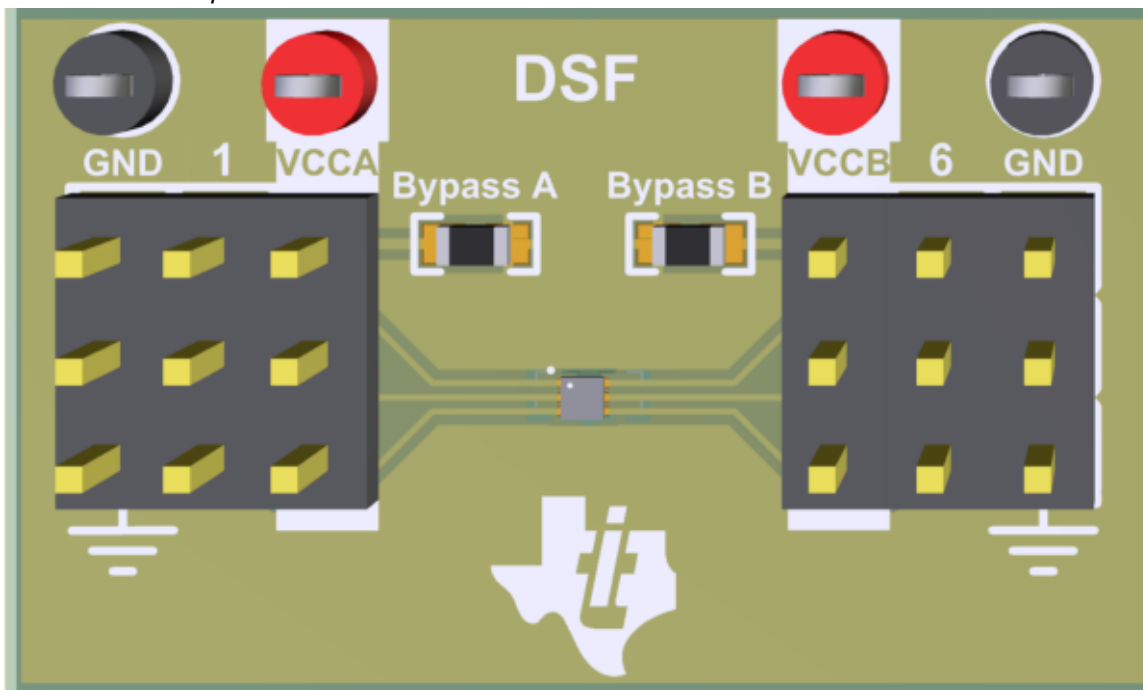

Figure 2-4. Fully Populated Section
4. Interface with device pins. The kit includes twelve 4-pin headers and four supply test points. The headers can be cut to accommodate the 5-pin and 6-pin footprints. An example of this, with the addition of bypass capacitors for the supplies, can be seen in Figure 2-4. *Note: The DPW section has the middle pad grounded to accommodate the pin-3 GND of DPW devices.*